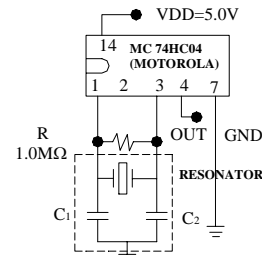

Fig. 2 Test circuit
**Ceramic resonators: with built-in capacitors:** It consists of a CMOS inverter with a feedback resistor  $R_f$  (figure 2). The feedback resistor allows oscillation